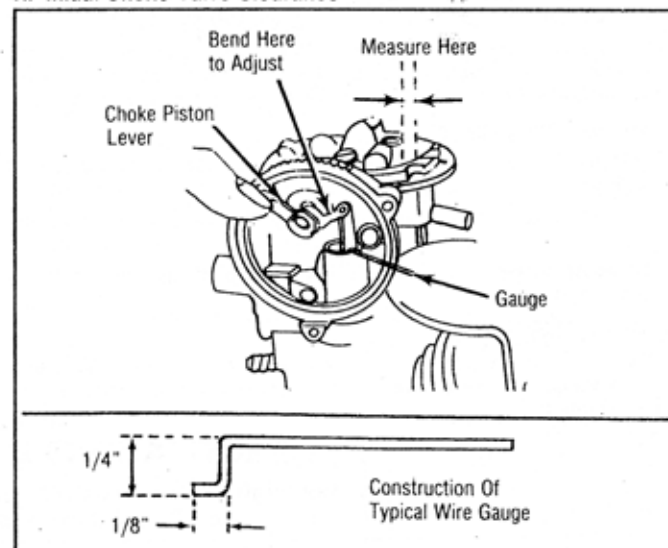

Fig. 12 Initial Choke Valve Clearance Adjustment (Models Without Choke Vacuum Diaphragm)
2. Insert a .025" gauge (AMC and Jeep) or a .026" gauge (Ford Motor Co.) between the choke piston slot and the right hand slot in choke housing. See Fig. 12.
NOTE: A gauge can be made from a paper clip if necessary. Construct the gauge to measurements shown in Fig. 12.